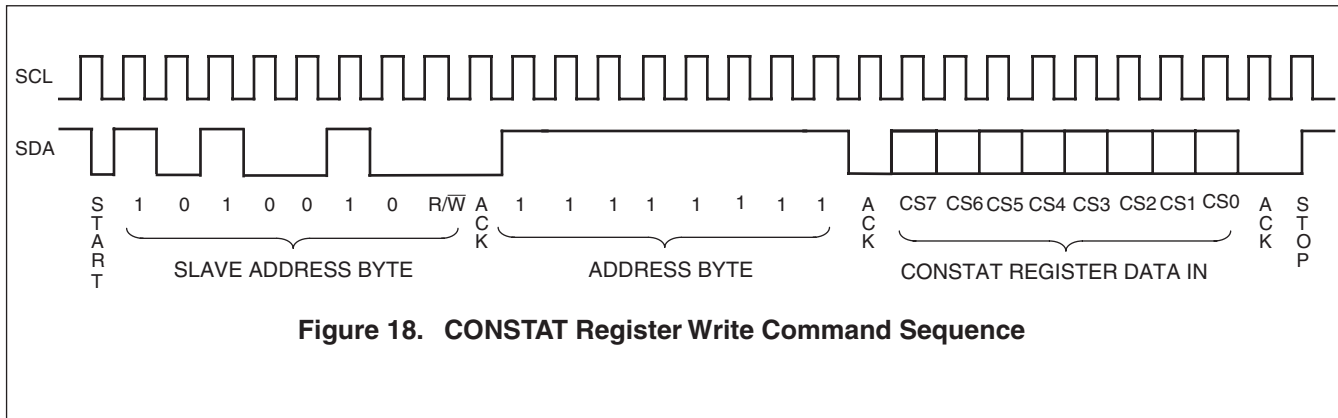

Figure 18. CONSTAT Register Write Command Sequence
Writes to the WEL bit do not cause an internal high voltage write cycle. Therefore, the device is ready for another operation immediately after a STOP condition is executed in the CONSTAT Write command sequence (See Figure 18).
- After a successful write operation to any bits of the CONSTAT register has been completed (See Figure 18).
The CONSTAT register is accessed using the Slave Address set to 1010010 (Refer to Figure 4.). Following the Slave Address Byte, access to the CONSTAT register requires an Address Byte which must be set to FFh. Only one data byte is allowed to be written for each CONSTAT register Write operation. The user must issue a STOP, after sending this byte to the register, to initiate the non-volatile cycle that stores the BP1, BP0, POR1 and POR0 bits. The X9520 will not ACKNOWLEDGE any data bytes written after the first byte is entered (Refer to Figure 18.).